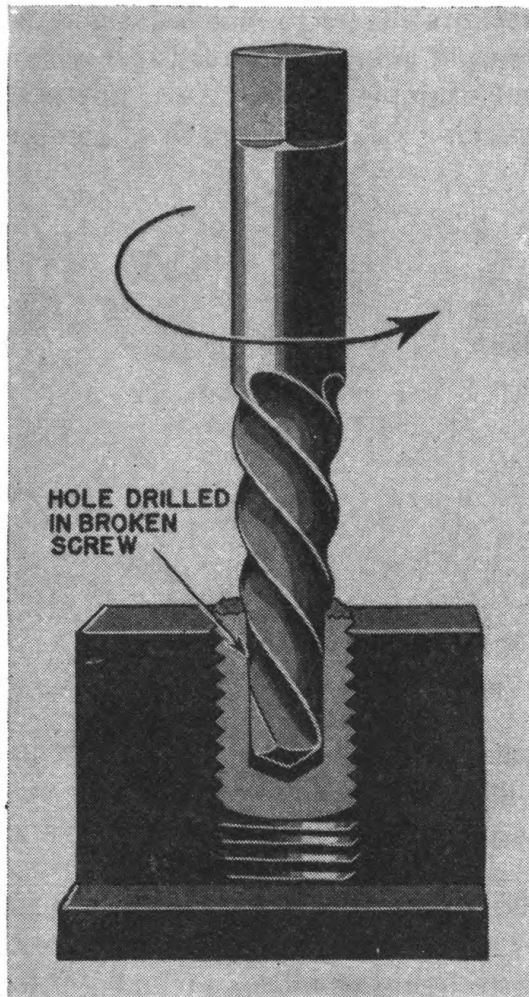

FIGURE 54.—Using screw extractor.
(3) At times a screw or stud will break off in a hole and must be extracted. The best method of doing this is to use a screw extractor. First drill a hole in the broken screw or stud a little smaller than its body diameter; then insert the extractor into this hole and turn it counterclockwise. The screw extractor is tapered and has sharp ridges, similar to left-hand threads, which will grip the sides of the hole in the broken part so that it can be turned out of the hole by a wrench. The screw extractor and the method of using it are shown in figure 54.